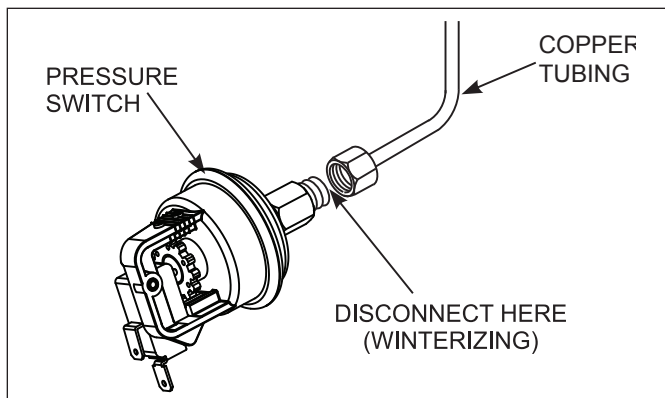

Figure 25. Pressure Switch Copper Tubing
8. Disconnect the pressure switch from the copper tubing. See Figure 25.
1. Attach the copper tubing to the pressure switch. See Figure 25.